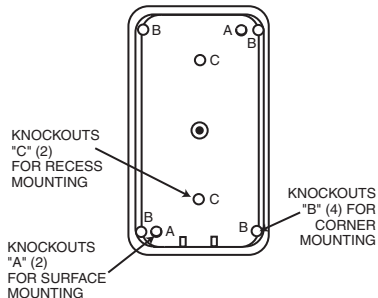

Figure 3. Mounting Holes in Base
3. Refer to Figure 3 for location of knockout holes in the base. Break out only those holes required.